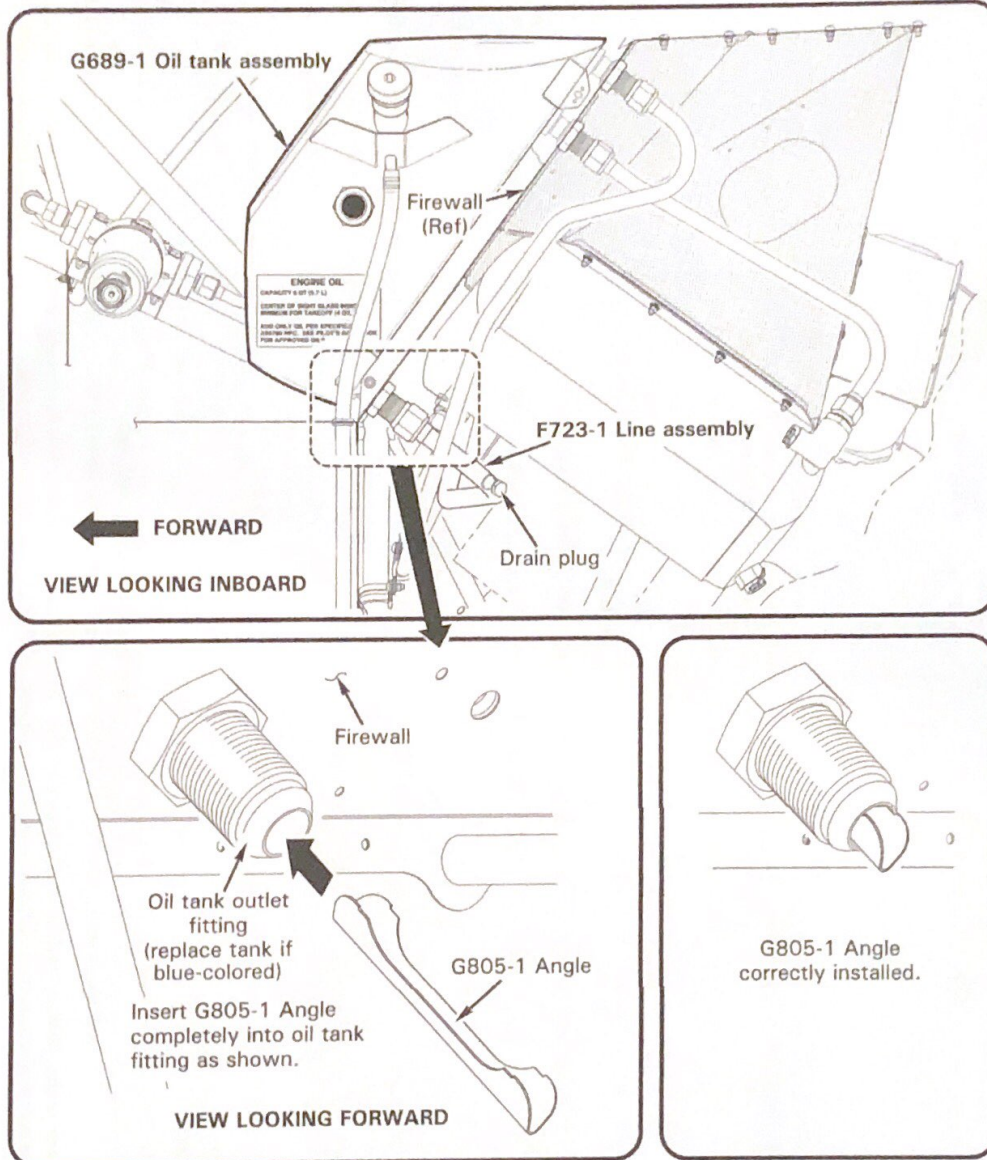

FIGURE 1
1. Refer to Figure 1. Visually inspect oil tank outlet fitting color; if fitting is blue (early revision tanks), tank is not eligible for installation of G805-1 angle and must be replaced. Replacement tanks may still require steps 2 thru 8 depending on revision level.
3. Drain engine oil per R66 Maintenance Manual (MM) § 12-60. Utilize a suitable clean container if reuse of oil is intended.
4. Refer to Figure 1. Disconnect F723-1 line assembly from tank fitting at firewall.